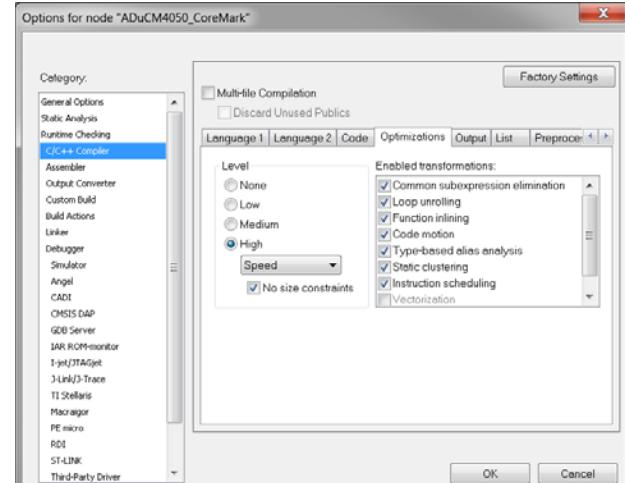

Figure 4. C/C++ Compiler—Optimizations Configuration
3. Under **C/C++ Compiler**, ensure that the optimization for high speed is chosen (see Figure 4). Also, check the **No size constraints** option. Some functions, such as **pltInitialize**, are protected to ensure that these functions are not optimized. The following code protects a function and prevents the compiler from modifying the function code: